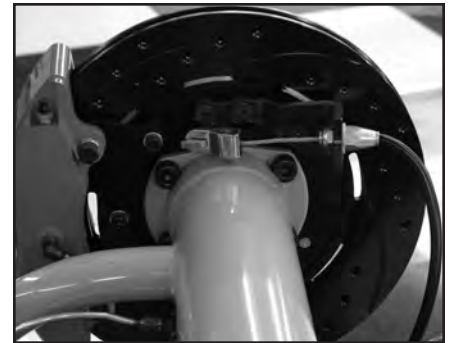

Figure 7
- Slide slot in clevis over the parking brake lever. Slide cable end fitting into the slot on the cable stop bracket and snug down the supplied 7/16" lock nut, figure 7. **NOTE:** It is recommended that you use anti-seize lubricant on all aluminum nuts.